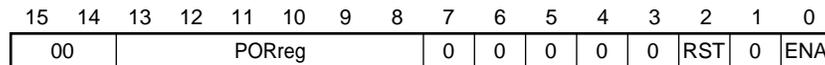

Figure 7-14. Configuration Control Register (3C509, 3C579, 3C589)
- Bit 8 For 3C509, 3C579, 3C589 (see Figure 7-14):